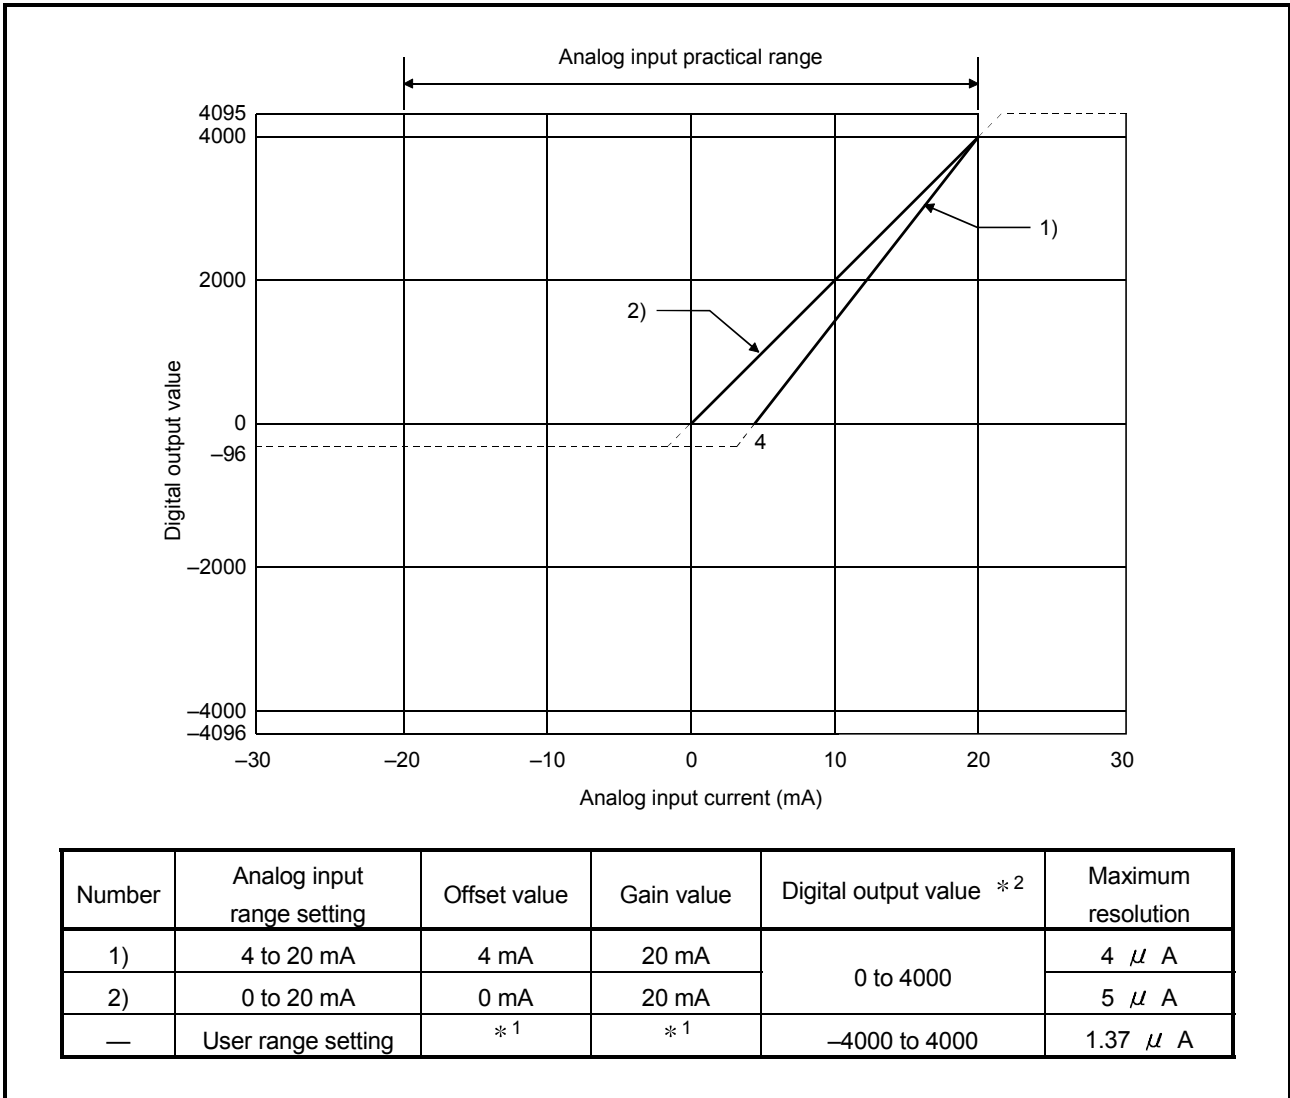

Figure 3.3 Current input characteristic in normal resolution mode
Figure 3.3 shows a graph of the current input characteristic in normal resolution mode.
<p>(1) Set within the analog input range and digital output range for each input range. If these ranges are exceeded, the maximum resolution and accuracy may not fall within the performance specifications. (Avoid using the dotted line area shown in Figures 3.3 and 3.4.)</p> <p>(2) When inputting an analog current out of the range between -30mA to 30mA, the elements may be damaged.</p> <p>(3) Set the offset/gain values for the user range setting *¹ within a range in which the following conditions are met. (a) Offset value, gain value setting range: -20.0 to 20.0mA (b) Choose either one of the following formulas, which corresponds to the resolution mode to be set. 1) Normal resolution mode: { (Gain value) - (Offset value) } > 5.5mA 2) High resolution mode: { (Gain value) - (Offset value) } ≥ 16.0mA</p> <p>(4) When an analog value that exceeds the range of Digital output value *² is entered, Digital output value will be fixed at the maximum or minimum value.</p>